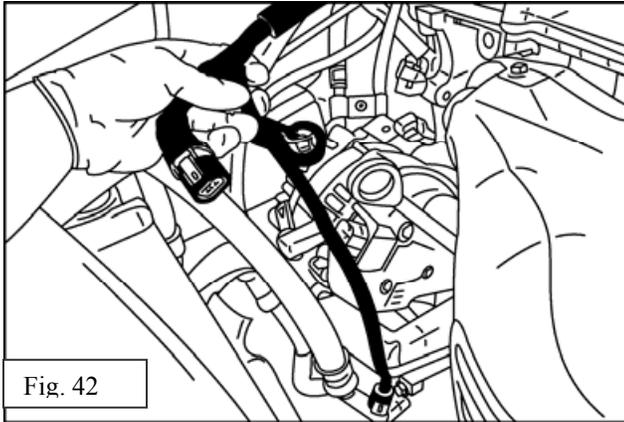

Fig. 42
- (e) Disconnect Alternator wiring and AC Pump wire, including AC Pump white-plastic wire-retainer clip. See Fig 42. Set these aside out of the way until supercharger is installed.